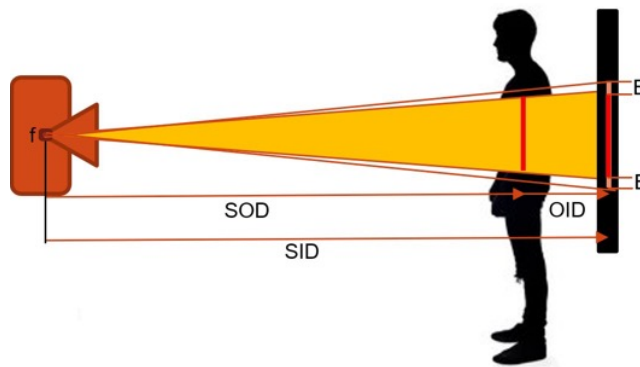

FIGURE 20
- / The geometric blur depends on the size of the focal spot, and the system geometry (Fig. 20):